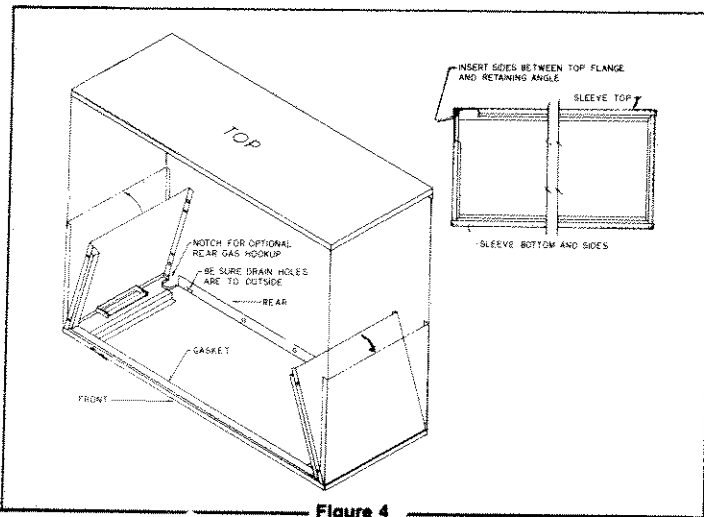

Figure 4
a. Free Drain (External) - A general acceptable alternative where the condensate drains from the wall sleeve through three exterior drain holes and drops to open ground. (See Figure 4.) The chassis slinger wheel is designed to pick up normal condensate and evaporate it off the condenser coil.
7. If rear gas hook-up (Kit #520751) is to be used (suggested method when sleeve installed at 0" floor clearance) the sleeve must protrude 1-5/8" beyond finished surface of outside wall (clearing "U" shaped notch in wall sleeve as illustrated in Figure 4) to allow for rear gas connection.
2. Unfold the sides of the wall sleeve and assemble the top, being sure that the sides wedge between the top flange on the top and the retaining angle as illustrated in Figure 4.